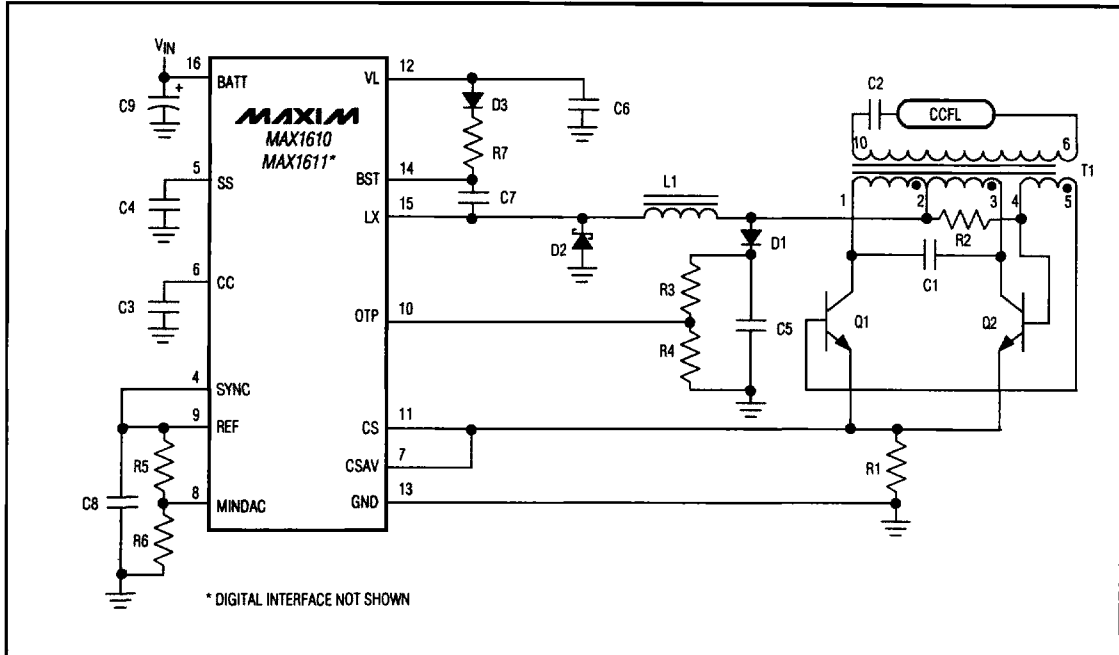
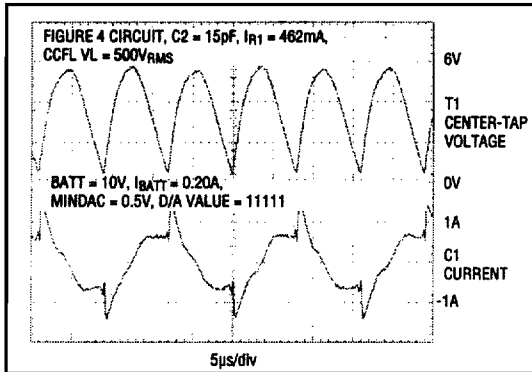
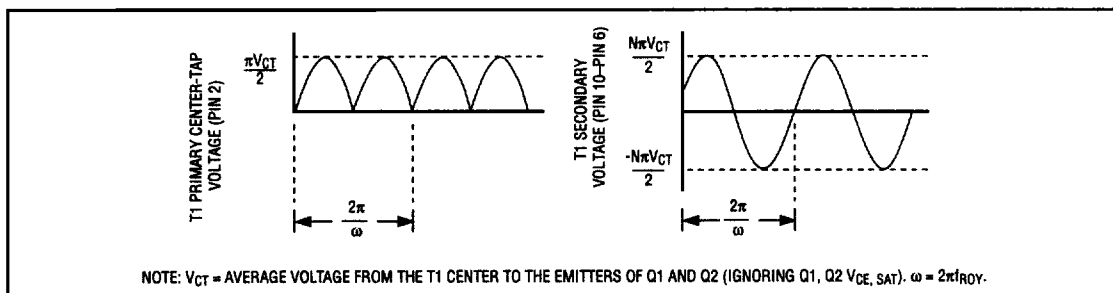

Figure 4. Typical Floating-Lamp Application Circuit
Figure 5. Royer Oscillator Typical Operating Waveforms for Circuit of Figure 4
Figure 8. Transformer Primary/Secondary Voltage Relationship
Table 3 shows the recommended component values to use with the circuit of Figure 4, depending on the particular CCFL parameters. The C2 values in Table 3 have been selected such that the normal operating voltage on the secondary of T1 is as close as possible to the CCFL strike voltage (where the strike voltage (Vs) is assumed to be approximately 1.8 times the CCFL operating voltage (VL)).
does not exceed its maximum rating, despite T1, C1, and C2 component-value variations. The Royer oscillator waveforms for the circuit of Figure 4 are shown in Figures 5 and 6.
The MINDAC pin sets the lowest CCFL brightness level. The voltage at MINDAC is divided by eight, and sets the minimum CSAV regulation voltage. For example, in the circuit of Figure 4, R5 (150kΩ) and R6 (51kΩ) form a resistor divider from REF, which sets MINDAC to 507mV (REF = 2.0V). This sets a minimum CSAV regulation voltage of 63mV with a full-scale CSAV regulation voltage of 247mV.
Table 3. Selecting Circuit Values for Figure 4
Any real transformer used in a Royer oscillator will have a maximum-allowed secondary voltage. If the maximum-allowed secondary voltage is exceeded, the winding insulation can break down, leading to permanent transformer damage. The maximum-allowed secondary voltage can be exceeded either when the CCFL drive circuit is turned on without the CCFL being in place, or when the CCFL becomes disconnected during normal operation due to a mechanical failure. To protect against these fault conditions, use the OTP pin to sense the voltage on the transformer center tap (pin 2 of Figure 4). Whenever the voltage on OTP exceeds the REF reference voltage, the BATT-to-LX power switch is forced off.
For example, in Figure 4, the CTX110605 transformer has a maximum-allowed continuous secondary voltage of 1340VRMS. D1 and C5 detect the peak voltage on the center tap of T1. R3 and R4 determine the limit on the voltage on the center tap of T1 and the secondary voltage is diagrammed in Figure 8. Neglecting the Q1/Q2 saturation voltage and the voltage on the R1 current-sense resistor yields Equation 1: